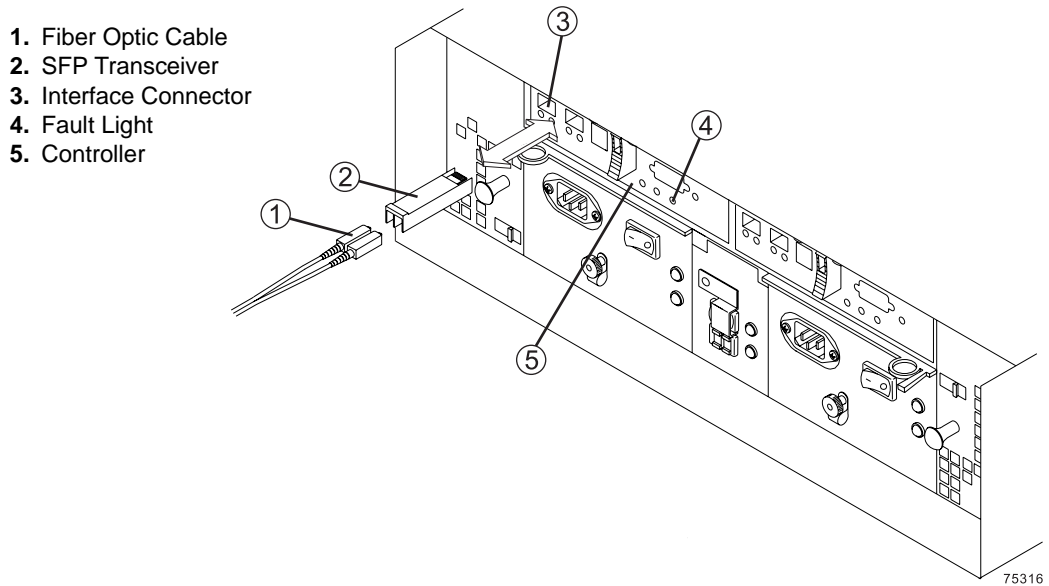

Figure 4-7 Removing the SFP Transceiver and Fiber Optic Cable
- 7 Check the Fault lights to locate the failed controller battery. If a fault is detected, the amber Fault light will be illuminated. Figure 4-7 on page 4-9 shows the locations of these lights.
- 8 Disconnect the SFP transceivers and all attached interface cables from the failed controller. Label all cables such that you can reconnect them correctly to the new controller. Figure 4-7 illustrates disconnecting a cable.
- 13 Reinstall the SFP transceivers to their original connectors, and attach the host and drive interface cables to their respective SFP transceivers. Figure 4-7 on page 4-9 illustrates installing an SFP transceiver and cable.